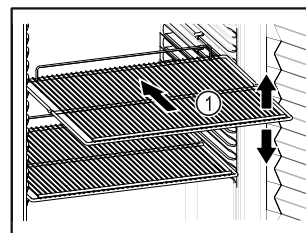

Fig. 50 Example illustration
- If there are adjustable shelves Fig. 50 (1), position them as required.